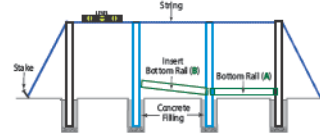

Figure 6
2. Slide the Bottom Rail (A) into the bottom hole of the terminal post. Starting down the fence line, place the next post into the next hole. Now slide the next Bottom Rail (B) into the bottom hole of the next post. (Figure 6) Repeat these steps until all posts are set with bottom rails inserted.
3. Fill the post hole with concrete. Make sure that the post is set at the correct height, is square, level and plumb with the fence line. (Figure 6)